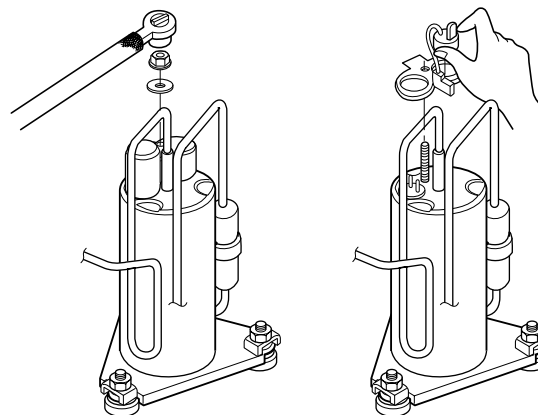

Figure 24
6. Re-install the components by referring to the removal procedure above. (See Figure 24 and 25)